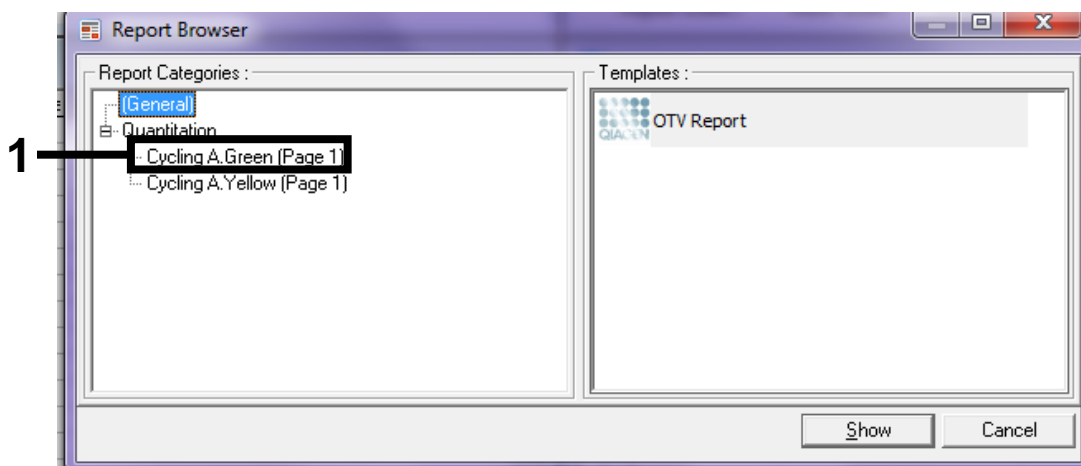

Bild 37. Rapportmeny. (1 = knappen "Cycling A. Green (Page 1)" [Cykling A. Green (sida 1)].)
9. I rapportmenyn klickar du på "Cycling A Green (Page 1)" [Cykling A grön (sidan 1)] under "Report Categories" [Rapportkategorier] (bild 37).